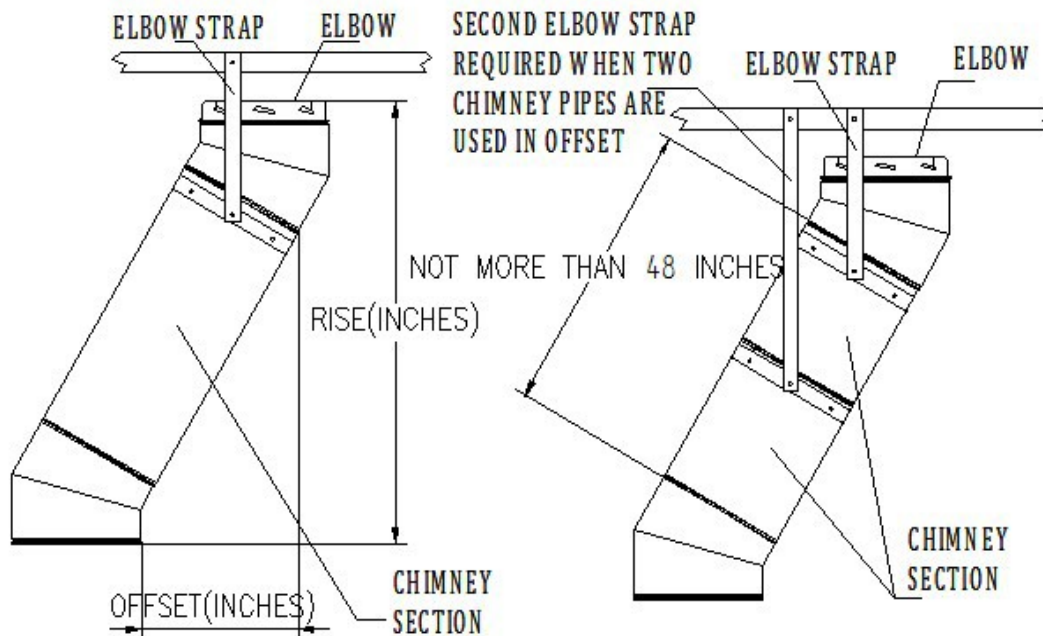

Fig 13
**1. Attach Elbows:** Attach Elbow to Chimney Section or other Elbow. Please be noticed that the female end of the elbows are not lanced, in order to ensure proper alignment of the chimney system can be maintained. Locking bands must be used at all chimney joints. Attach one Elbow to the Chimney Section below, and align it for the offset. Refer to Table 2 to determine the required offset length and attach an appropriate length (or lengths) of Chimney Section(s) above the Elbow. The maximum length of chimney pipe between elbows is not to exceed 72" (maximum of two chimney sections only). Attach the second Elbow above the Chimney Section to complete the offset (Fig 13).
**2. Secure Offset:** Place the Elbow Strap's band around the angled portion of the top Elbow, then tighten the nut and bolt until the clamp is firm. Wrap the Elbow Strap end over an adjacent joist or rafter and secure it with at least (2) 8-penny nails or (2) #8, 1-1/2 screws. Do not add more Chimney Sections until the Elbows are supported. Be sure that the chimney remains vertical. If there is more than one Chimney Section between the Elbows, install a second Elbow Strap around the joint of the two Chimney Sections (Fig 13).